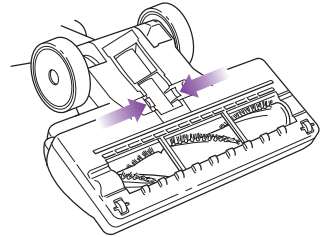
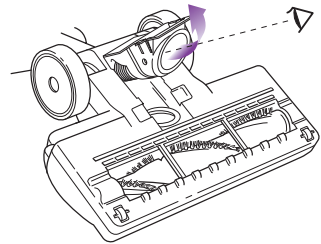

Fig. 32
Fig. 33
- Turn motorized floor brush over and detach the hose by squeezing the tabs together and pulling it out. Straighten out the hose and inspect the inside for any blockages. **(Fig. 32, Fig. 33)**